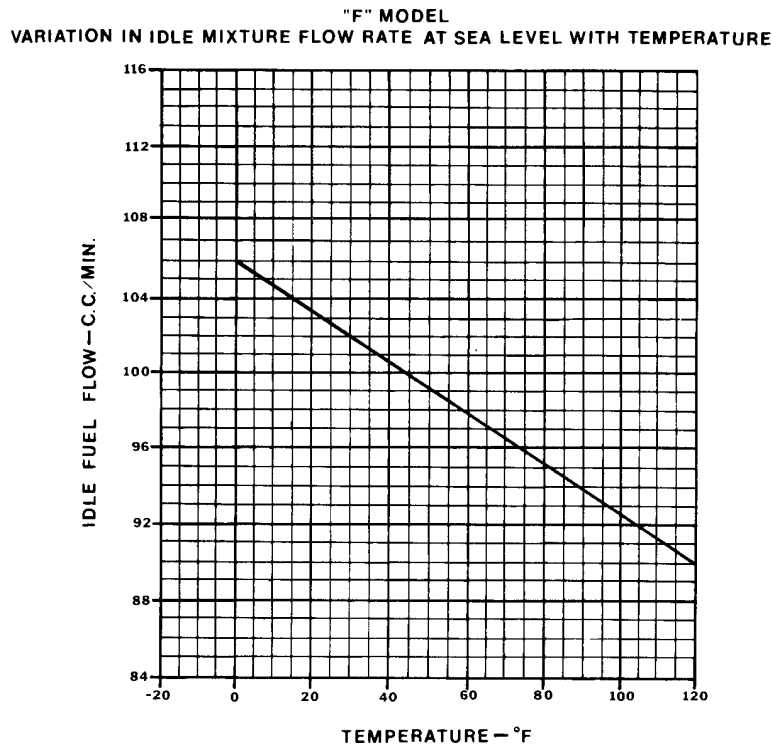

Figure 1
6. The required idle fuel flow for a standard day, sea level condition is 98 cc, plus 2 cc., minus “0” cc/min. Corrections for non standard temperature should be taken from Figure 1.